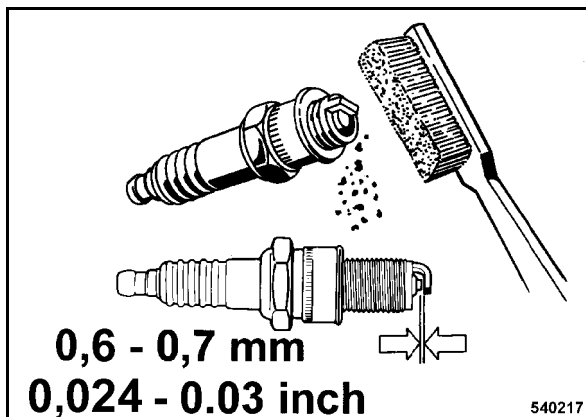

Fig. 40
- Unscrew the spark plug, check the spark plug visually and clean it if necessary (Fig. 40).